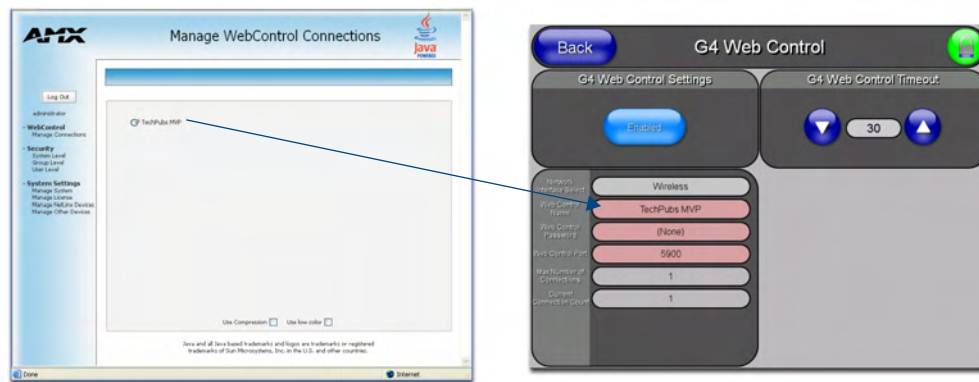

FIG. 44 Sample relationship between G4 Web Control and Manage WebControl Connections window
8. From the *Web Name* keyboard, enter a unique alpha-numeric string to identify this panel. This information is used by the NetLinx Security Web Server to display on-screen links to the panel. The on-screen links use the IP Address of the panel and not the name for communication (FIG. 44).